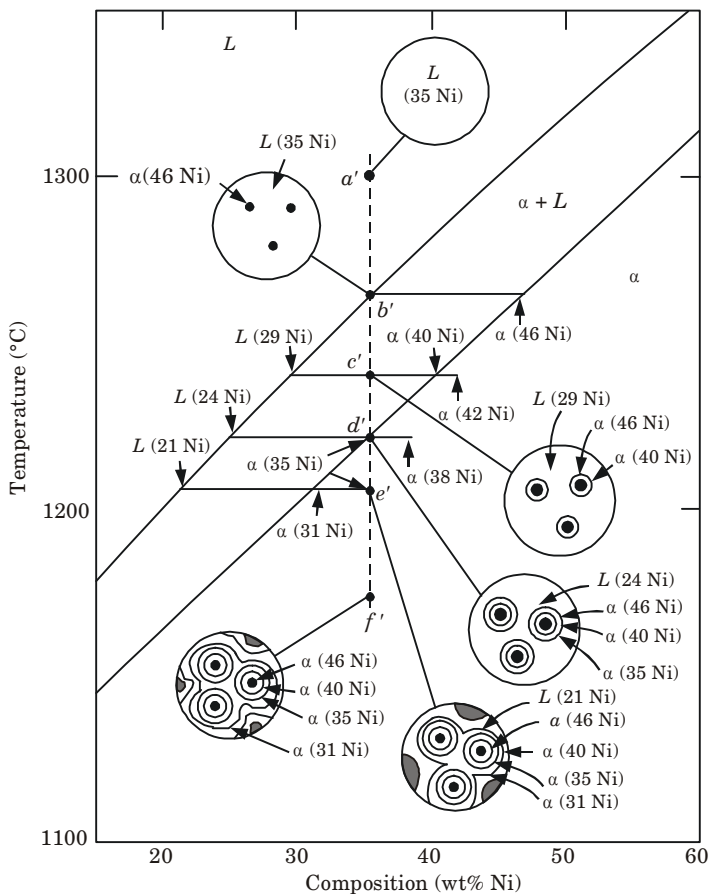

Fig. 3.11.1. Development of micro structure during non equilibrium solidification of 35 % Ni- 65 % Cu alloy.
2. This liquid has a composition of 35 wt% Ni-65 wt% Cu noted as *L*(35 Ni) in (Fig. 3.11.1), and no changes occur while cooling through the liquid phase region (moving down vertically from point *a'*).
8. The implication of this non-equilibrium solidification phenomenon is that the solidus line on the phase diagram has been shifted to higher Ni contents-to the average compositions of the α phase, (e.g., 42 wt % Ni at 1240 °C)-and is represented by the dashed line in (Fig. 3.11.1).